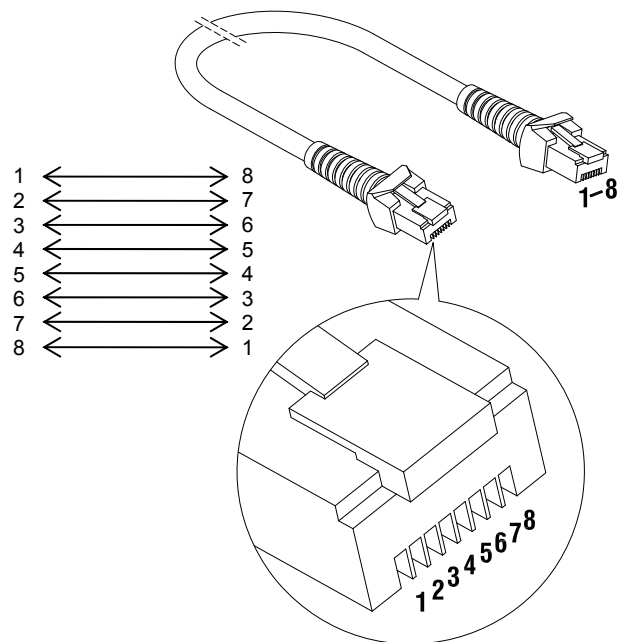

Figure 20: Modular communication cable, 8 pole, cross wired. For communication between two Mass Combi's (parallel operation)
- In case of Parallel operation (section 3.4): Modular communication cable 8 pole (maximum length 15m) for communication between the two Mass Combi's. See figure 20.